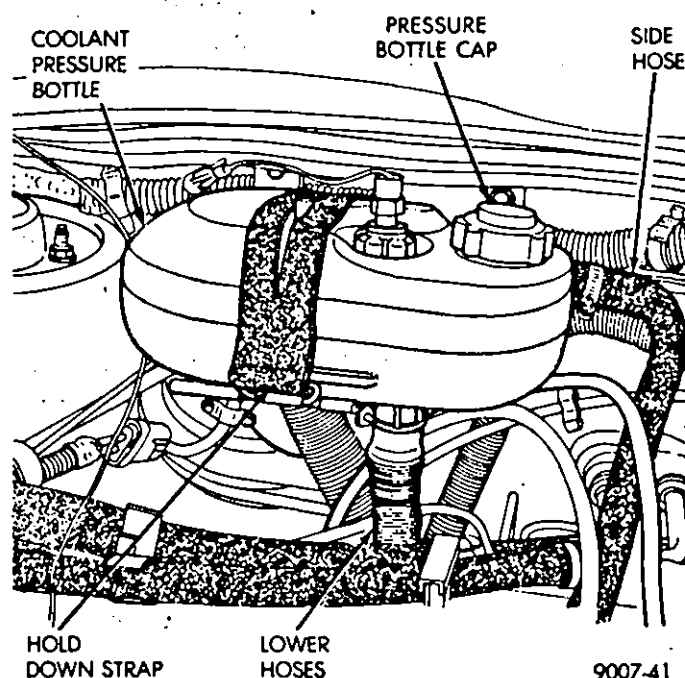

Fig. 6—Coolant Pressure Bottle Cap
(3) Open radiator drain.
(4) Remove coolant pressure bottle cap and let radiator drain (Fig. 6).
(5) Disconnect radiator upper and lower hoses from radiator.